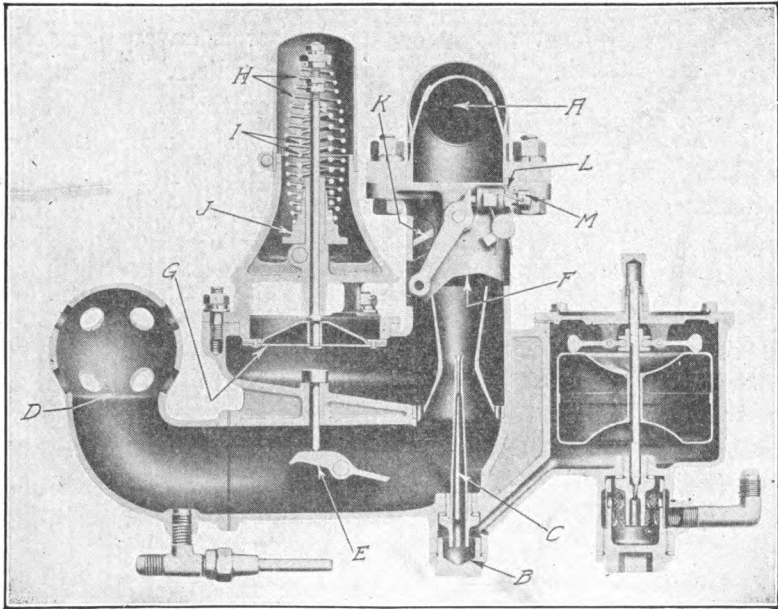

Fig. 123. Section through Packard Twin-Six Carburetor
**Packard Carburetor.** The carburetor used on the Packard twin-six (twelve-cylinder) cars is shown in section in Fig. 123. The inlet manifold, or rather the pipe which leads in both directions to the manifold proper, is seen at the top at *A*. It will be noted that this is water-jacketed, the water space being at the top. The float arrangement is of the usual type, with a metal float which supplies fuel to a small well *B* at the base of the single-spray tube *C*. This has a flared end located in the center of the Venturi. When the air from the air horn *D* passes the air shutter *E*, it picks up the fuel and carries it up into the vaporizing chamber *F*. The primary air shutter is normally open but not in use. It is operated by a hand wheel on the control board which also operates the auxiliary air valve *G*. By turning this clear over to the position marked choke, the air intake is closed, and a rich mixture is drawn in for starting. After that, the hand wheel should be set back toward the position marked AIR which opens the air intake.